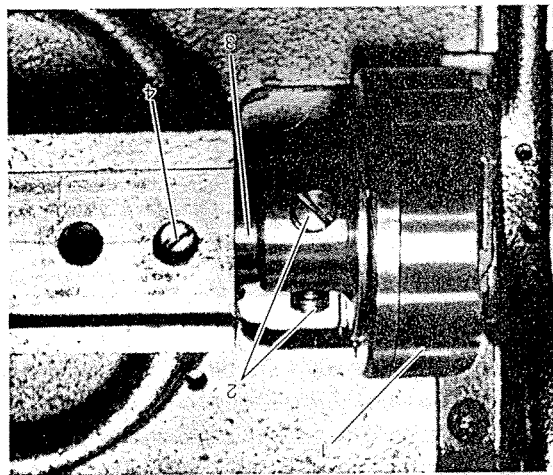
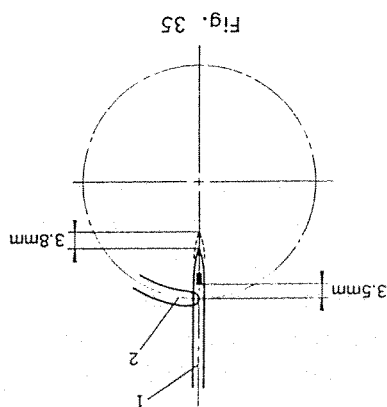

Fig. 33
Fig. 35
Move the bushing (3) to fit snugly to the bottom of the hook like the fig. 33 so that it moves slightly, and tighten the screw securely. To loosen the screw (4), at first remove the bobbin case retainer ratchet (1, Fig. 39).
Loosen the hook set screws (2, Fig. 33), turn the hand pulley toward you until the needle bar raises to 3.8 mm from its lowest point.
Bring the hook point (2, Fig. 35) to the center of the needle (1, Fig. 35) by moving the hook and tighten three screws (2, Fig. 33).
This should be made after the timing between the needle and hook has been determined. Turn the balance wheel toward you so as to fit the center of the needle to the hook point (refer to Fig. 35).